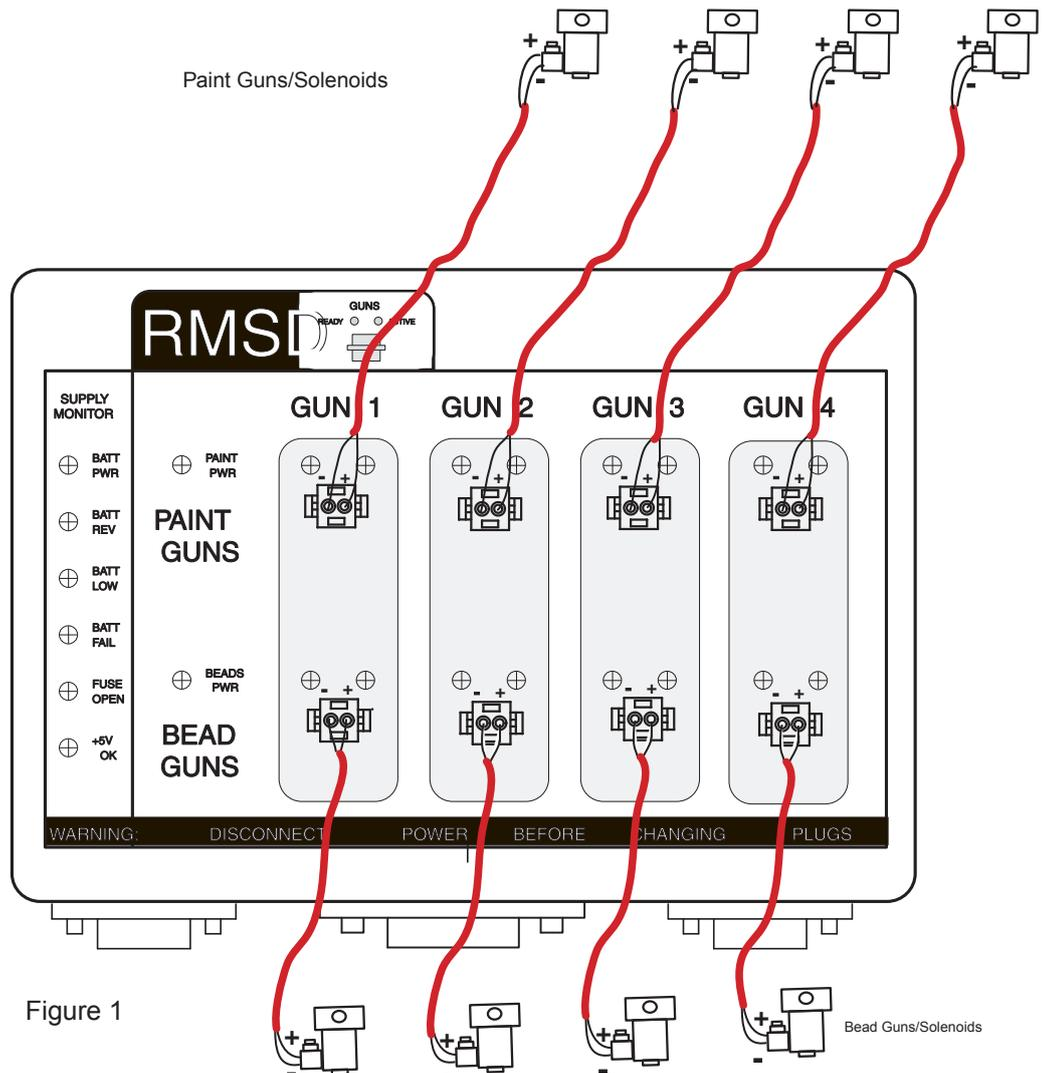

Figure 1
- 1 Each gun circuit must be wired separately to the Output Box, as shown on Figure 1. Do not wire paint and bead gun circuits in parallel.